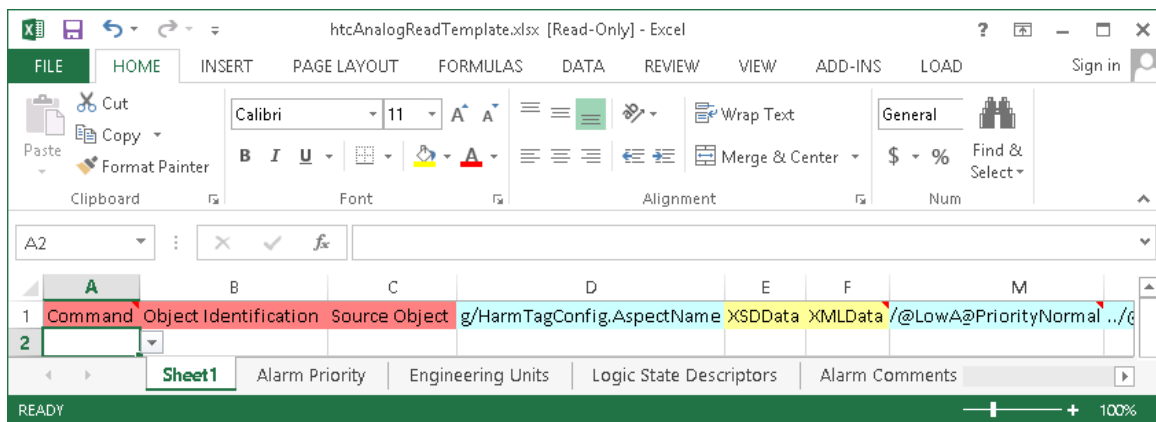

Figure 49. Excel Showing the Template File
2. Select the desired Harmony template file and click **Open**. This will launch Excel, activate the **Bulk Data Manager** Excel Add-In, and load the selected template file as shown in Figure 49.